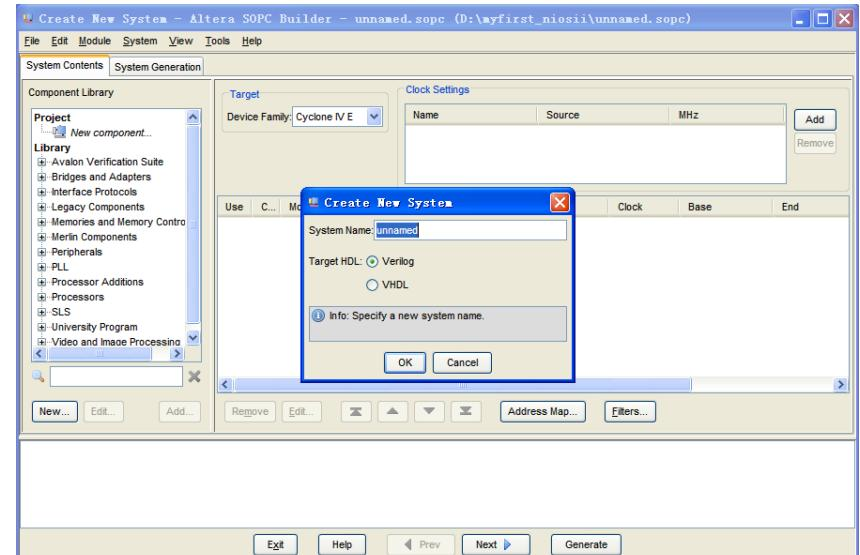
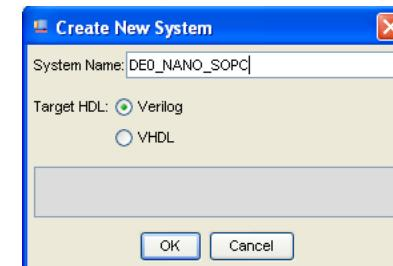
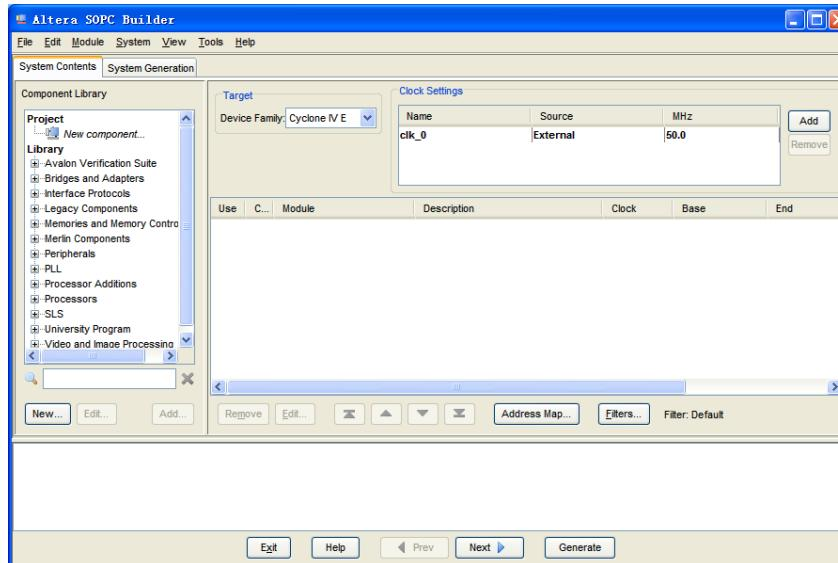

Figure 7-10 Create New SOPC System [0]
Figure 7-11 Create New System [1]
Figure 7-12 Create New System[2]
6. Rename System Name as shown in Figure 7-10 and Figure 7-11. Click OK and you will see a window as shown in Figure 7-12.